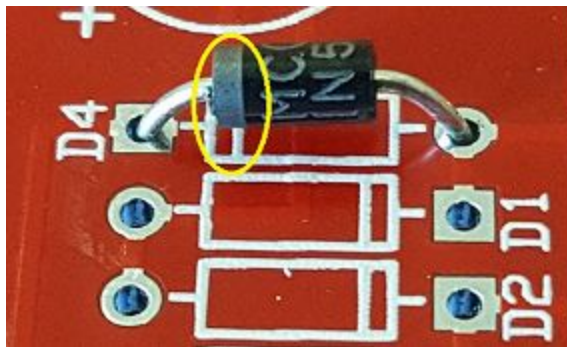

Fig3
8. Install the following 1N5817 diodes. Ensure that the diode is oriented so that the white stripe on the diode aligns with the white stripe on the circuit board. See Fig3